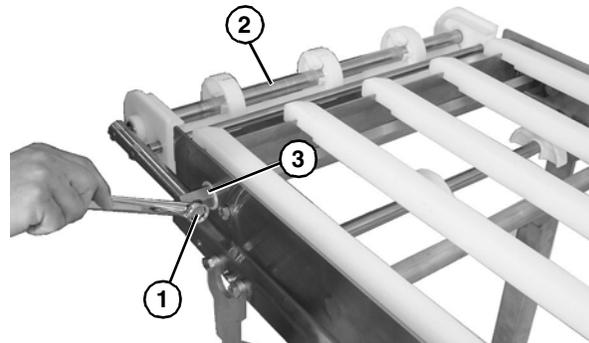

**Figure 59**
- Remove the bearing cover from bearing shaft assembly (**Figure 59, item 1**).
- Use a hex wrench to loosen two set screws (**Figure 59, item 2**) on the bearing shaft assembly (**Figure 59, item 1**).
- Slide the bearing shaft assembly off of the drive spindle (**Figure 59, item 3**). Slide bearing shaft assembly off the drive spindle on opposite side.
- Remove pinch guard (**Figure 59, item 4**) on each side.
- Remove sprocket alignment bar (**Figure 59, item 5**), and pinch guard shaft (**Figure 59, item 6**).
- Remove the sprockets (**Figure 59, item 7**).